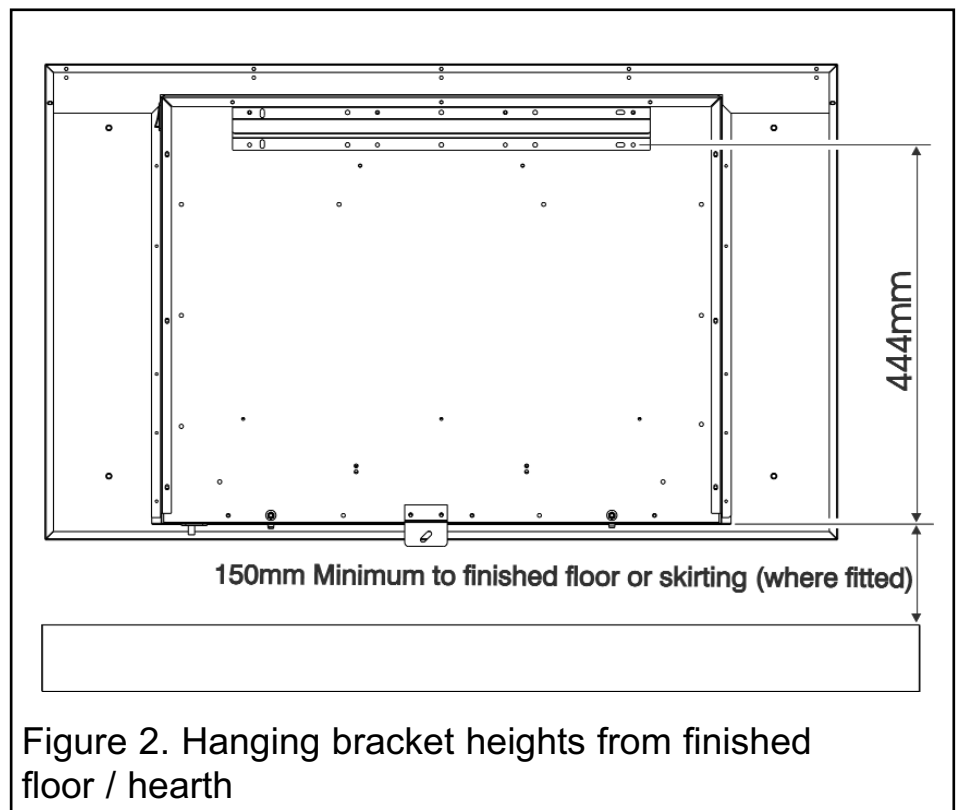

Figure 2. Hanging bracket heights from finished floor / hearth
- If fitting to a conventional brick wall then use the outer slotted holes in the bracket. If fitting to a plasterboard wall that has a wooden frame behind it then use all four fixing holes in the bracket. This is required to spread the load. Mark the positions of the hanging bracket holes on the wall (See figure 2). There is a 150mm clearance required under the heater to open the lamp access covers.